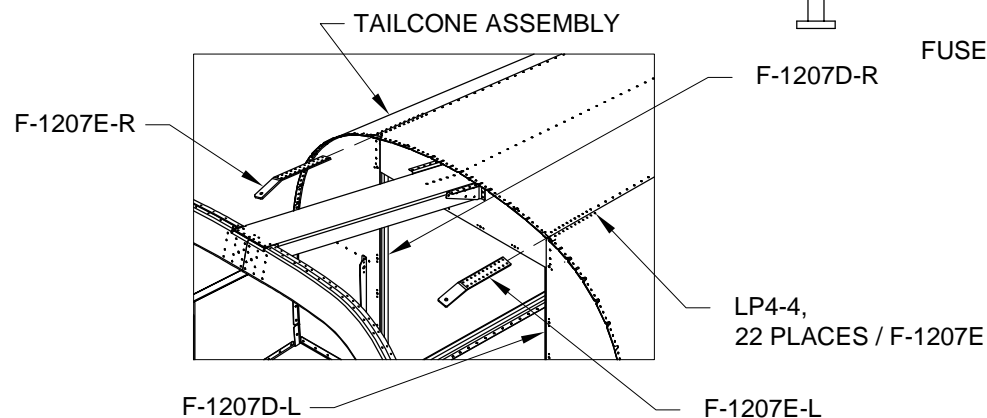

FIGURE 2:
Step 2: Cleco the F-1207E-L & -R Shoulder Strap Lugs to the inboard surface of the Tailcone Assembly skins as shown in Figure 2.
Step 3: Rivet the F-1207E-L & -R Shoulder Strap Lugs to the Tailcone Assembly skins using rivets called out in Figure 2. Capture the upper flange of the F-1207D-L & -R Baggage Bulkhead Channels when riveting the two forward holes of the shoulder strap lugs.